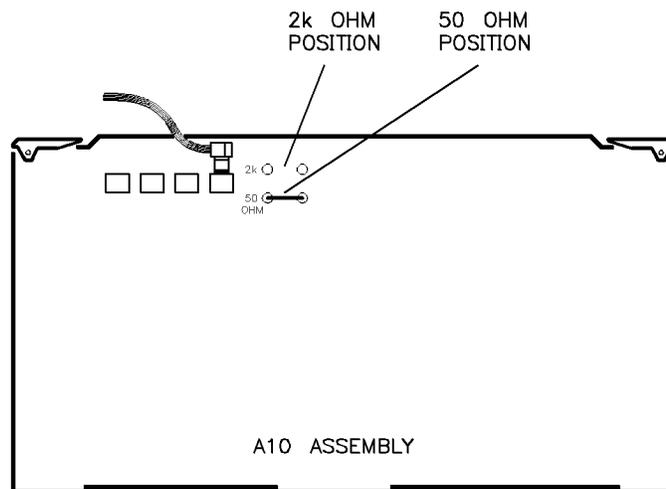

Figure 3-35. A10 Jumper Locations
2. Lift up the A10 ALC assembly far enough to access the jumper shown in Figure 3-35.